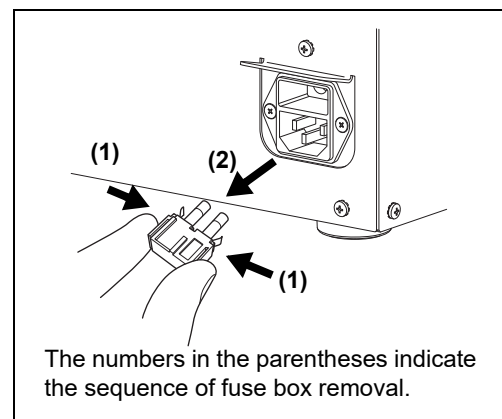

Figure 6.7
- 3** Push the projections on the fuse box in the direction of the arrows (1) in Figure 6.7 and remove the fuse.